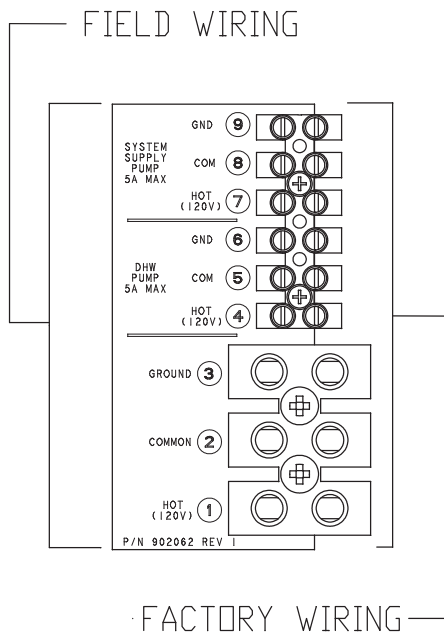
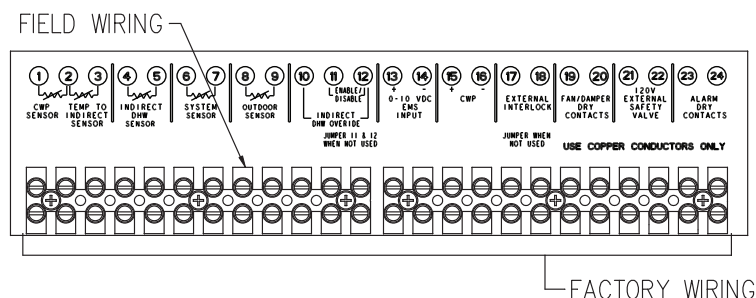

Fig. 18: Wiring Electrical Connections
Fig. 23: Low Voltage Field Wiring
All high voltage wiring connections to the MVB heater are made inside the rear wiring box as shown in Fig. 18. Power for indirect DHW pump not exceeding 5 amps should be taken from terminals 4(Hot), 5 (Com), and 6 (Gnd). Power for system pump not exceeding 5 amps should be taken from terminals 7 (Hot), 8 (Com), and 9 (Gnd). Power for boiler pumps 3/4 HP and smaller should be taken from terminals 1 (Hot), 2 (Com), and 3 (Gnd), and must be routed through the pump contactor; 30A supply is required. Power for pumps larger than 3/4 HP must be a separate circuit wired through the pump contactor. Power to the MVB heater should be connected to Terminals 1, 2, and 3 as noted in Fig. 18. All low voltage wiring, including sensors, interlocks, enable/disable, and various options are wired into terminals 1–24 on the front wiring panel as noted in Fig. 23.
Connect the Enable/Disable terminals to the field wiring terminal (shown in Fig. 23). Alternately, any dry
4. Connect an Energy Management system or other auxiliary control signal to the terminals marked 0-10V (+ /-) on the PIM™ (see Fig. 23). Caution should be used to ensure that the +0-10V connection does not create a short to ground.
3. Connect the system supply sensor to terminals 6 and 7 on the field wiring strip located on the Master PIM™ (See Fig. 23).
4. Connect the Outdoor sensor (if used) to terminals 8 and 9 on the field wiring strip located on the Master boiler (See Fig. 23).
5. Connect the Enable/Disable wiring to terminals 11 and 12 on the field wiring strip located on the Master boiler (See Fig. 23). This connection must be provided through dry contacts closure.
An alarm annunciator or light may be connected to the alarm contacts on the boiler PIM™. The Alarm Contacts are 3A rated dry contacts on a normally-open relay that close during fault or lockout conditions, and the maximum voltage across the contacts is 30 VAC or 30 VDC. See the Field Wiring as shown in Fig. 23.